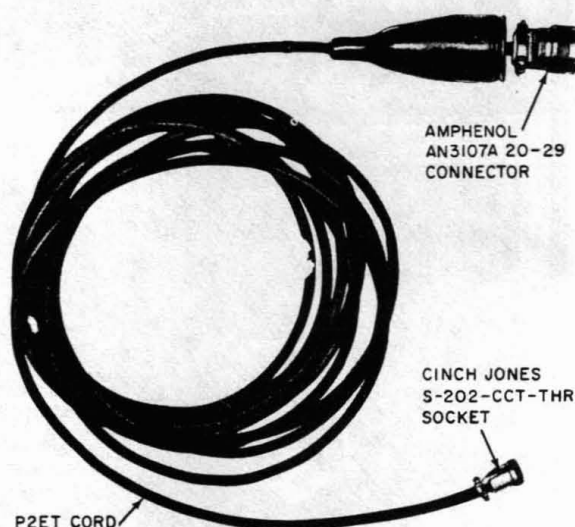
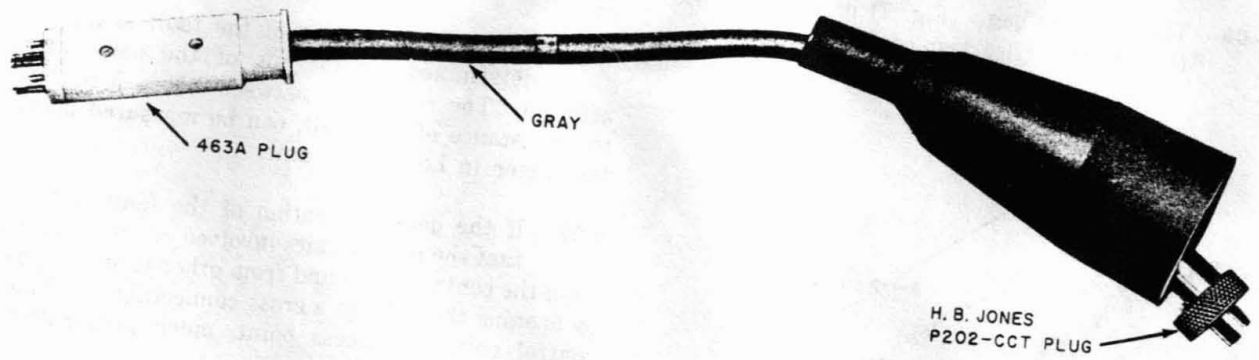
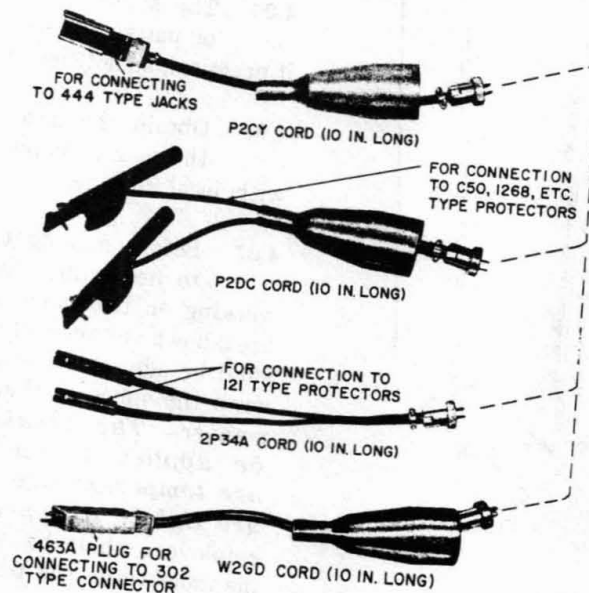

Fig. 4—P2ET Cord
Fig. 5—W2GM Cord
Fig. 6—Cords Used With KS-14103 L6 Test Set
3.07 The P2ET cord (Fig. 4) and W2GM cord (Fig. 5) in conjunction with the cords illustrated in Fig. 6 are used to connect the KS-14103 L6 test set to conductors at a central office location ONLY. These cords must be ordered separately.